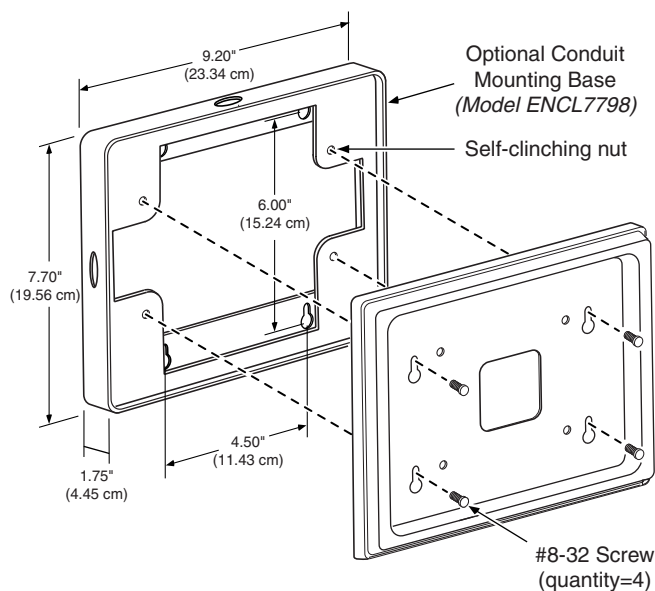

Figure 5. Optional Conduit Mounting Base Installation
3. If using the optional conduit mounting base, attach the enclosure base to the conduit mounting base with four #8-32 screws (see Figure 5).